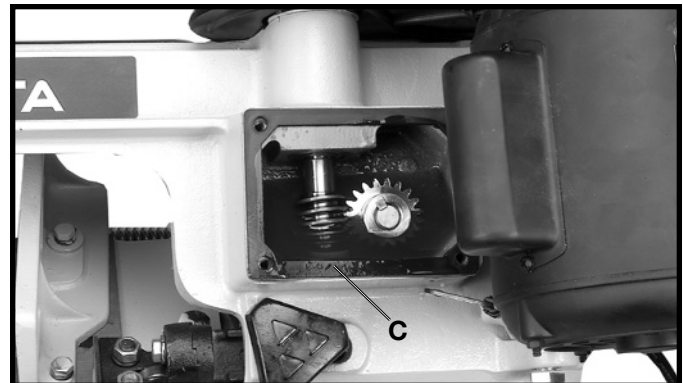

Fig. 39
3. Remove the old oil from inside the gear box and replace the oil using 140 weight gear oil, available from Delta. The new oil should just come to the edge (C) Fig. 39, of the gear box. Do not overflow. Replace the gasket, cover and four screws that were removed in **STEP 3**.